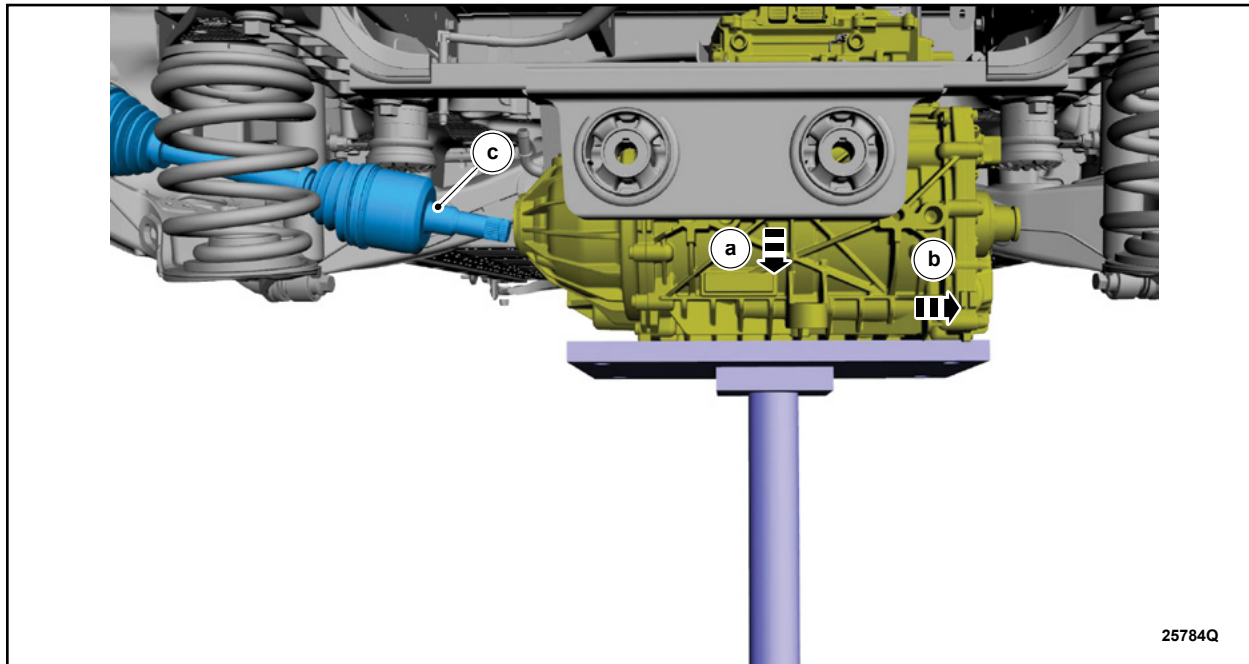

FIGURE 21
25. Perform the following steps. See Figure 21.